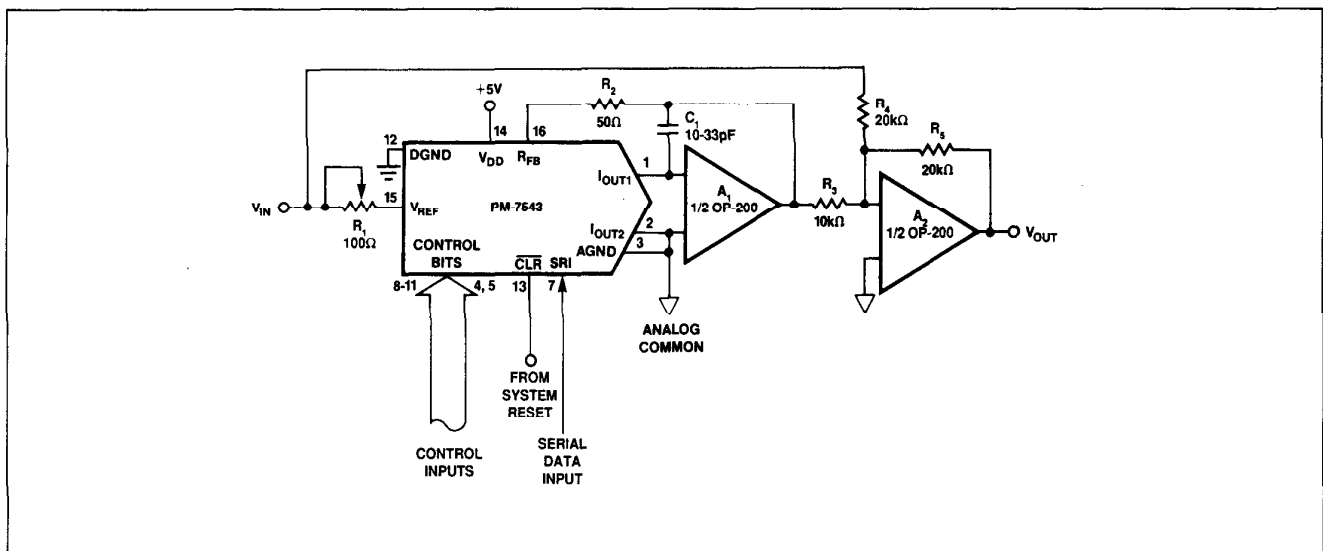

FIGURE 9: Bipolar Operation (4-Quadrant, Offset Binary)
Figure 9 details a suggested circuit for bipolar, or offset binary operation. Table 3 shows the digital input to analog output relationship. The circuit uses offset binary coding. Two's complement code can be converted to offset binary by software inversion of the MSB or by the addition of an external inverter to the MSB input.
1. Nominal full scale for the circuits of Figure 9 is given by
2. Nominal LSB magnitude for the circuits of Figure 9 is given by